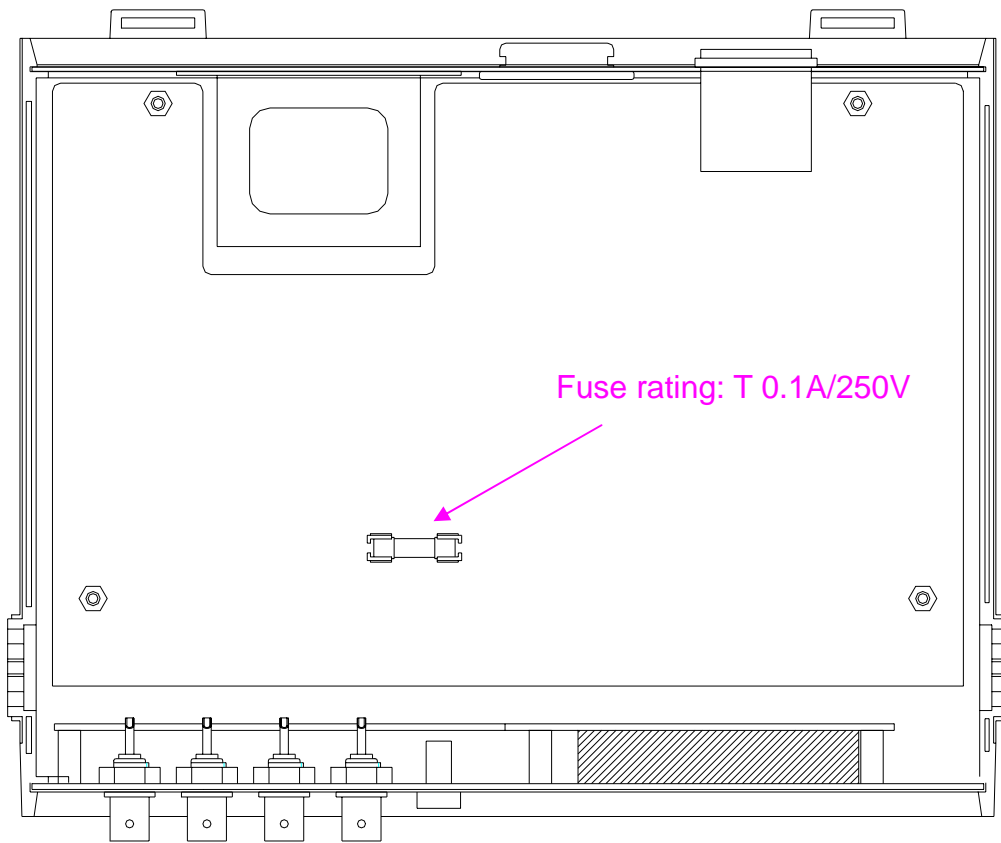

Figure- 31. Fuse location
3. Replace the damaged fuse with specified one. Refer to Figure-31 about fuse position, its rating is T 0.1A/250V.